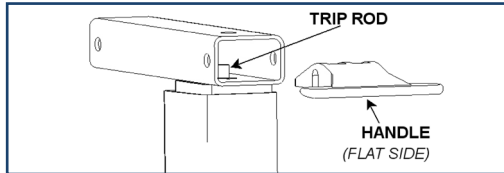

FIGURE 2
4. Place the Top (#1) on a flat surface, with the Top Bracket (#9) facing upward. Then, while holding the Trip Handle (#4) in place so it doesn't fall out, insert the Column (#6) into the Top Bracket (#9). Align the holes in the Column foot (#6), the Trip Handle (#4) and the Top Bracket (#9). Install both bolts (#2) and both nuts (#5) thru these aligned holes with the two (2) 10mm spanners. Fig. 2